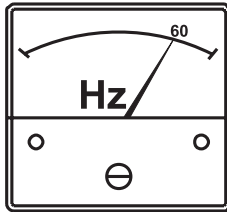

Figure 47. Frequency Meter
3. The generator's frequency meter (Figure 47) should be displaying the 60-cycle output frequency in **HERTZ**.